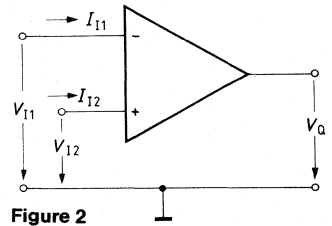

Figure 2
a) Input offset voltage V_{10} is that voltage difference which must be applied to the input terminals to achieve an output voltage of 0 V (fig. 2).
b) Input current I_1 is the average static input current required for op amp operation (fig. 2).
c) Input offset current I_{10} is the difference between the input currents in the operating range. At high values of generator resistance, I_{10} may cause difficulties (fig. 2).